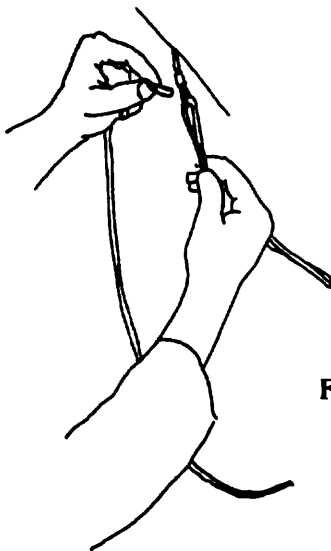

Fig 23
14) Finally, pass the free end of the leech line through the thimble in the crossbar wire a second time, in the same direction as the first time, and pull the leech line tight. (Fig 23).